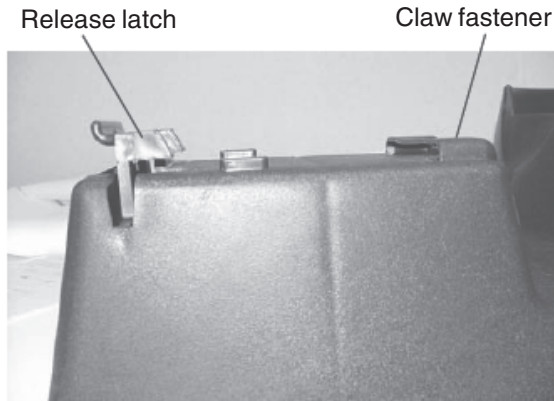
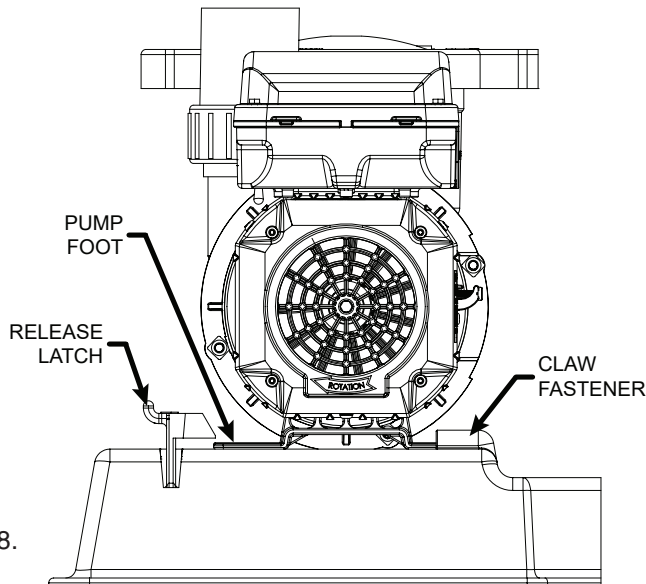

Figure 7.
Figure 8.
- N. Slide the pump foot between the claw fasteners and the release latch. See Figure 7. Seat the pump by pushing down on it until the release latch clicks into place on the pump foot. See Figure 8.
- P. Install the two (2) push-in fasteners through the slots in the foot of the motor, into the two (2) holes in the system base near the release latch.